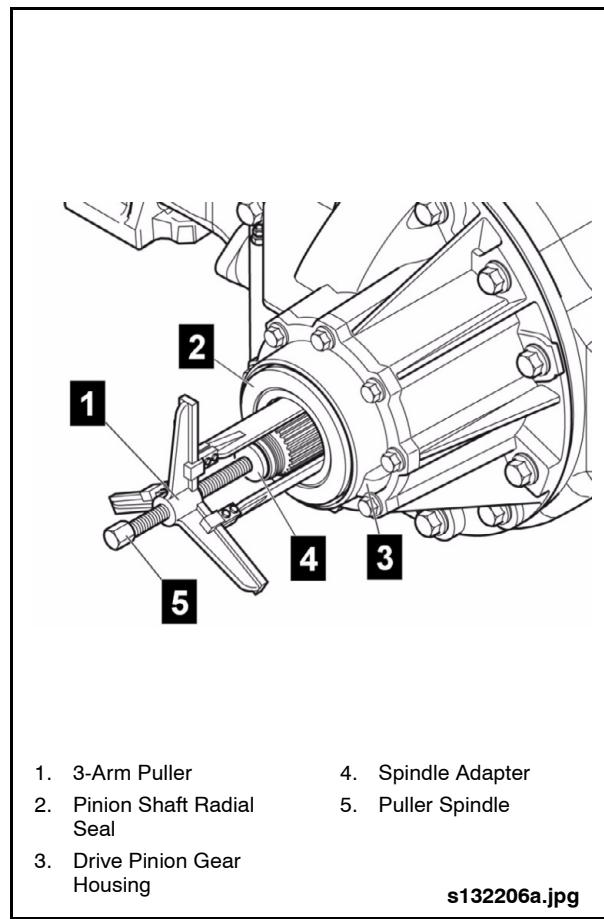

Fig. 2-35: Removing Radial Shaft Seal
2. Place the Spindle Adapter (Item 67 from Special Tools List) on the pinion shaft and thread in the spindle until it contacts the spindle adapter. See "Fig. 2-35: Removing Radial Shaft Seal" on page 34.